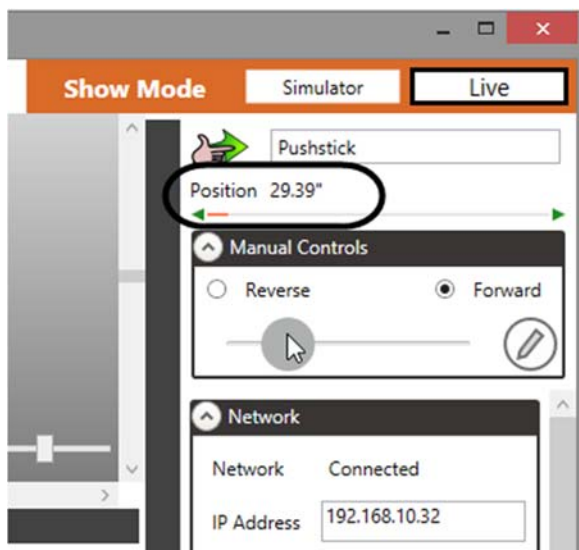

Figure 85
5. Confirm that the position number at the top of the **Stagehand Editing Pane** is increasing as the motor moves forward (Figure 85).